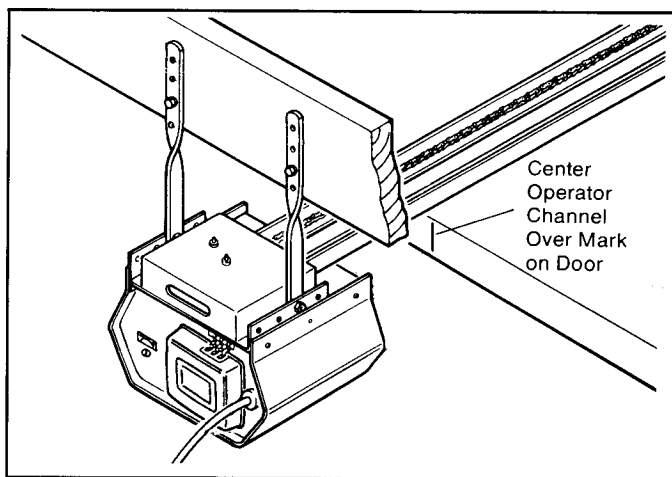

Figure 12. Centering Operator (Door Fully Open).
Step 21: Bolt hanger straps to power head using most convenient holes. See Figure 12.
Step 23: Raise channel two inches above top edge of door. Use the lag screws provided to attach the hanger straps to ceiling joist or header, as shown in Figure 12. Note that the channel must clear the door.
Installation requirements may vary with garage construction. Additional material may be required for finished ceiling (dry wall or plaster). In such cases, be sure that the hanger straps are secured to ceiling joists, or to a header-plate (See Figure 12) which, in turn, must be attached through the finished ceiling to the supporting joists.